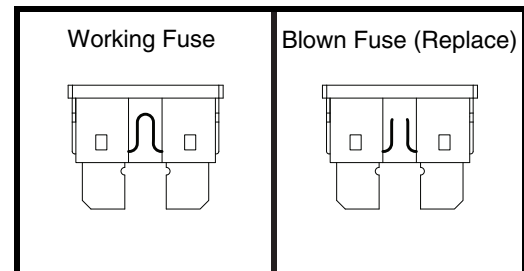

Figure 25. Fuse Replacement
2. Examine the fuse to be sure it is blown. **See figure 25.**